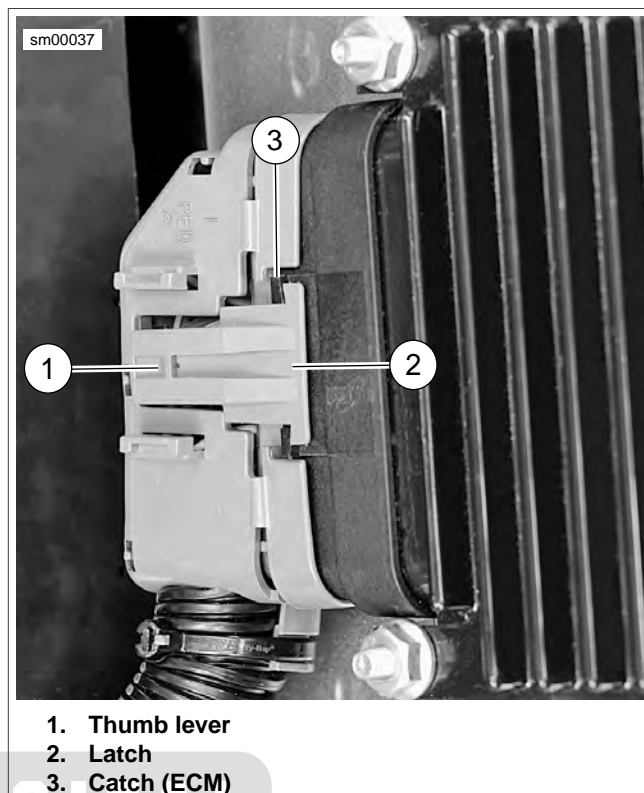

Figure A-41. Packard 100W to ECM (Typical)
See Figure A-41. While pressing the connector into the ECM, press the thumb lever (1) against the connector until the latch (2) pops out of the catch (3) on the ECM.